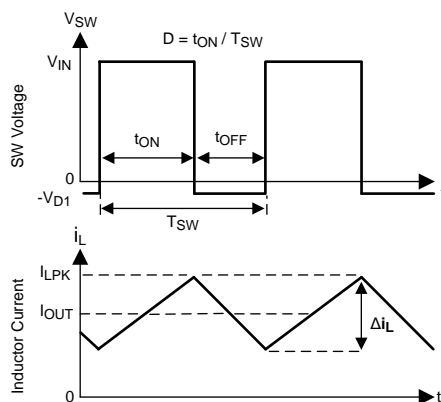

Figure 33. SW Node and Inductor Current Waveforms in Continuous Conduction Mode (CCM)
The following operating description of the LM43600 will refer to the Functional Block Diagram and to the waveforms in Figure 33. The LM43600 is a step-down Buck regulator with both high-side (HS) switch and low-side (LS) switch (synchronous rectifier) integrated. The LM43600 supplies a regulated output voltage by turning on the HS and LS NMOS switches with controlled ON time. During the HS switch ON time, the SW pin voltage V_{SW} swings up to approximately V_{IN} , and the inductor current I_L increases with a linear slope $(V_{IN} - V_{OUT}) / L$. When the HS switch is turned off by the control logic, the LS switch is turned on after a anti-shoot-through dead time. Inductor current discharges through the LS switch with a slope of $-V_{OUT} / L$. The control parameter of Buck converters are defined as Duty Cycle $D = t_{ON} / T_{SW}$, where t_{ON} is the HS switch ON time and T_{SW} is the switching period. The regulator control loop maintains a constant output voltage by adjusting the duty cycle D . In an ideal Buck converter, where losses are ignored, D is proportional to the output voltage and inversely proportional to the input voltage: $D = V_{OUT} / V_{IN}$.